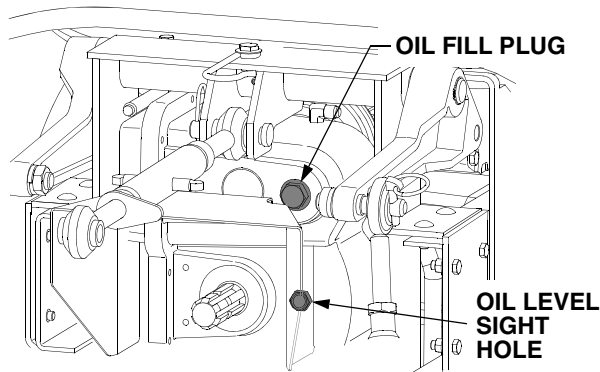
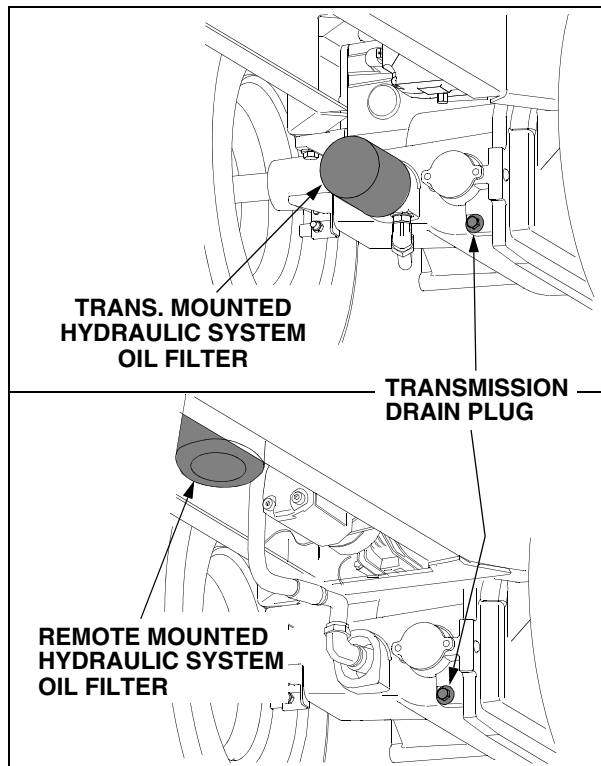

Figure 43
Figure 45
The oil level sight glass is located in the rear of the transmission housing, just to the right of the rear PTO shaft. Refer to Figure 43.
- Locate the oil fill plug on the upper right of the rear of the transmission housing. See Figure 43.
- The hydraulic system oil filter is either mounted horizontally on the front of the transmission housing, or is remotely mounted in the vertical position between the tractor frame rails. Refer to Figure 45.
- Position a suitable container below the hydraulic system filter. Refer to Figure 45.
- Clean area around the transmission oil fill plug to prevent debris from entering the transmission (Refer to Figure 43) and remove the plug.
- Clean the area around the transmission drain plug and the oil fill plug to prevent debris from entering the transmission. Refer to Figure 43 and Figure 45.
- Remove the oil fill plug to help vent the transmission, then remove the drain plug and allow the transmission oil to drain into the container(s). Reinstall the drain plug after draining the oil. Refer to Figure 43 and Figure 45.